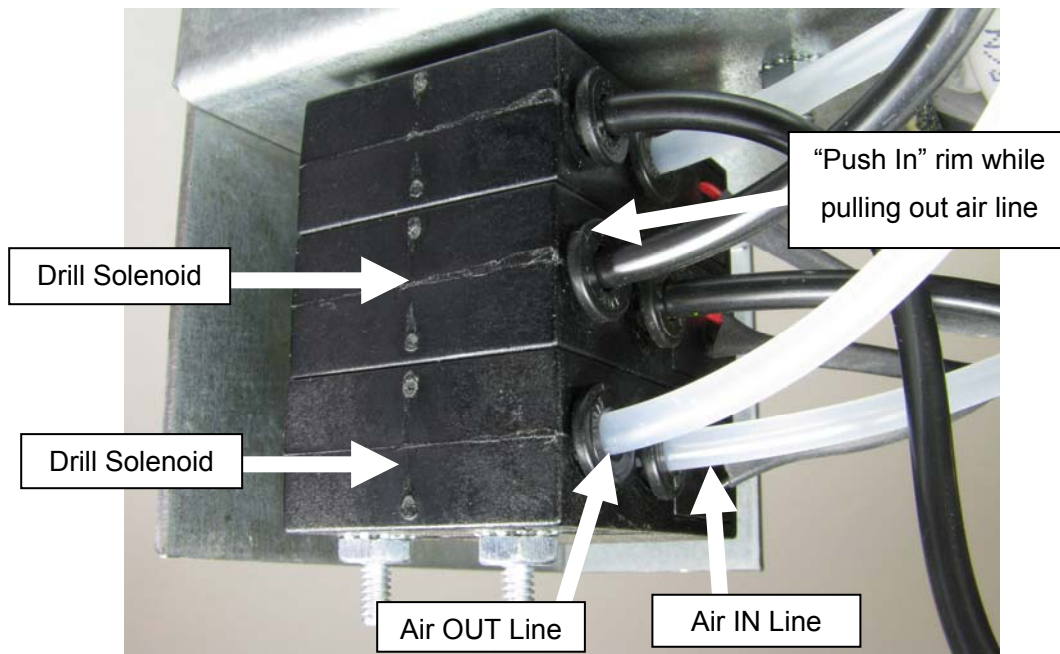
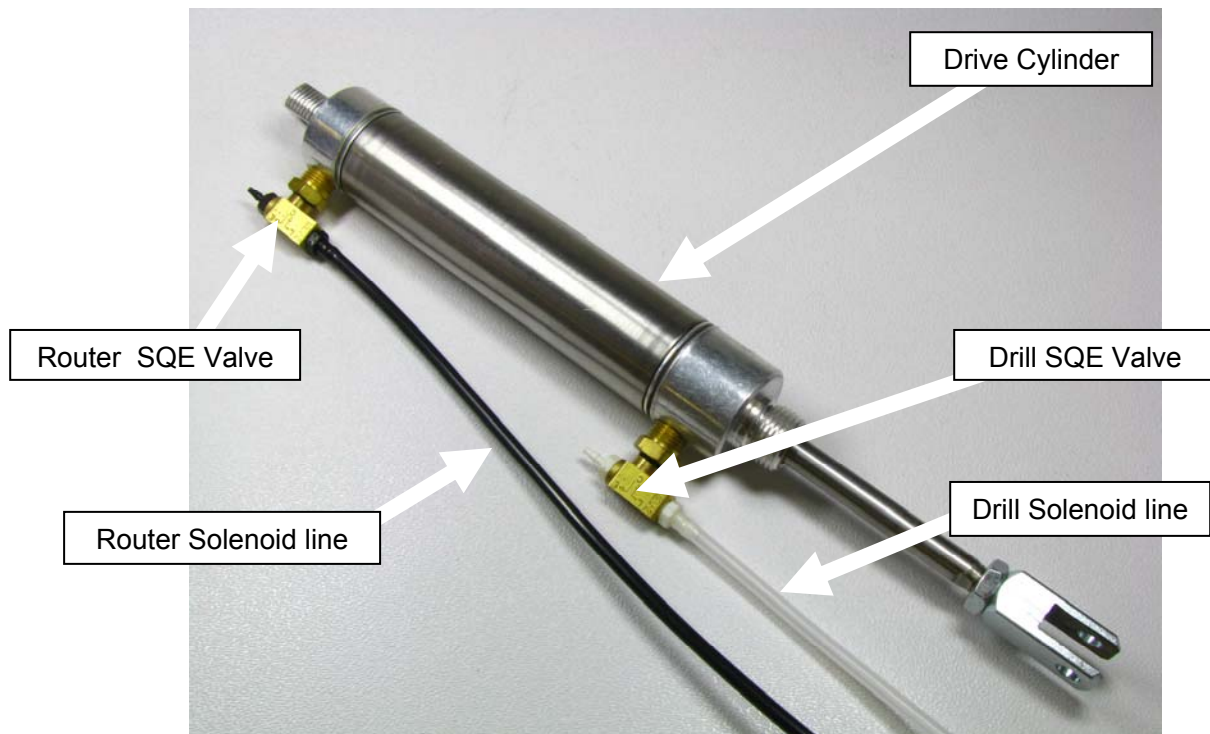

Fig 22
Fig 23
1. Disconnect the “Air Out” lines from the Router and Drill Solenoids. **See Fig 22.** The other end of the lines should remain attached to the Drive Cylinder SQE valves. **See Fig 23.**
6. Reconnect the “Air Out” lines to the Router and Drill Solenoids. **See Fig 22.**
7. Disconnect the “Air Out” lines at the Drive Cylinder SQE valves. **See Fig 23.**
11. Reconnect the air lines to the Drive Cylinder as shown **Fig 23.**